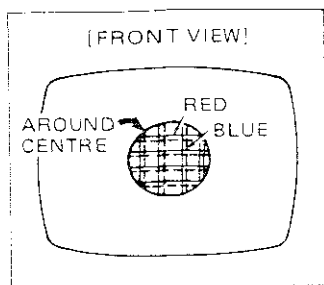

Fig. 3-6
2. Rotate the front pair of tabs as a unit to minimize the separation of the red and blue lines around the center of the screen. To adjust the convergence of red and blue, vary the angle between the tabs. (Fig. 3-6)